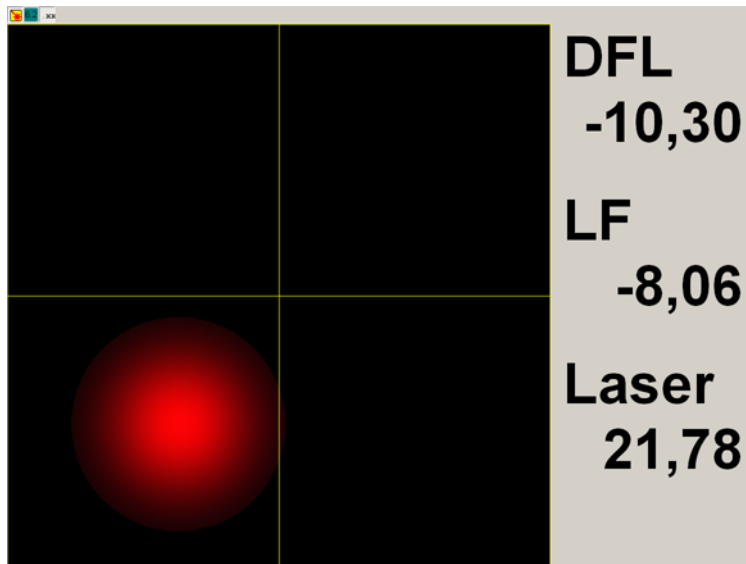

Fig. 10-35. **Laser** signal achieved its maximum
- Adjust the **Laser** signal (Fig. 10-35) in the **Aiming** tab to its maximum by moving the probe with the screws 1 and 2. The **Laser** signal should be in the range 5÷30 nA.